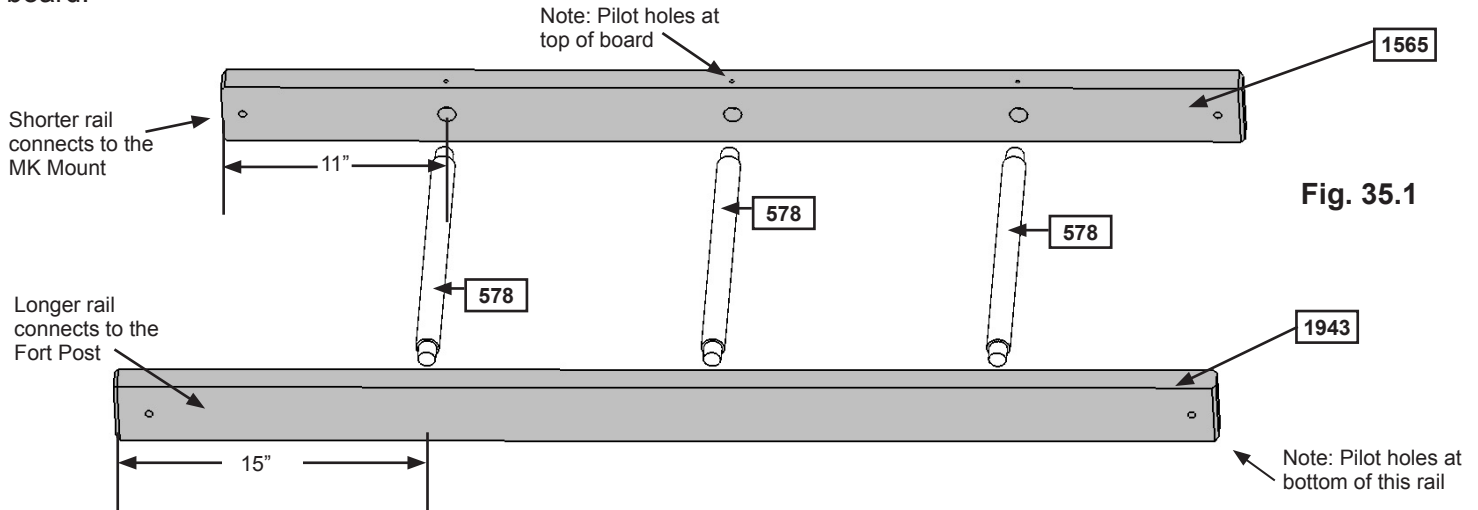

Fig. 35.1
A: Insert 3 (578) 1-1/8 x 15-7/8" Dowels into both (1943) MK Rail Long and (1565) MK Rail Short as shown in fig. 35.1. Note that (1943) MK Rail Long will connect to the (1931) Post when attaching to the fort and (1565) MK Rail Short will connect to (2531) MK Mount and the pilot holes on the (1943) MK Rail Long are on the bottom of the board.